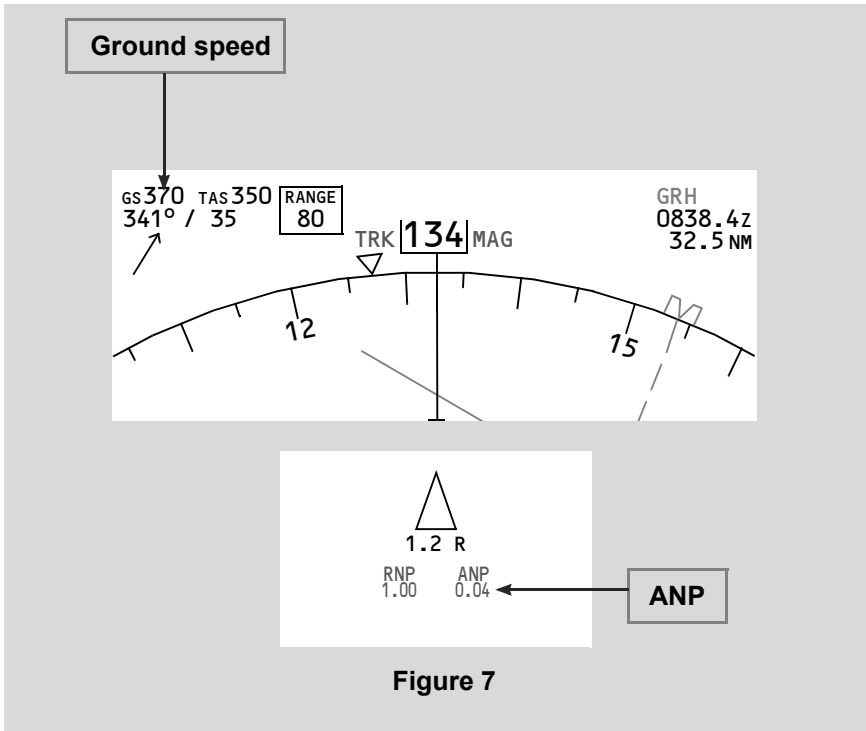

Figure 7
- Change in the FMC ANP and ground speed (Figure 7)